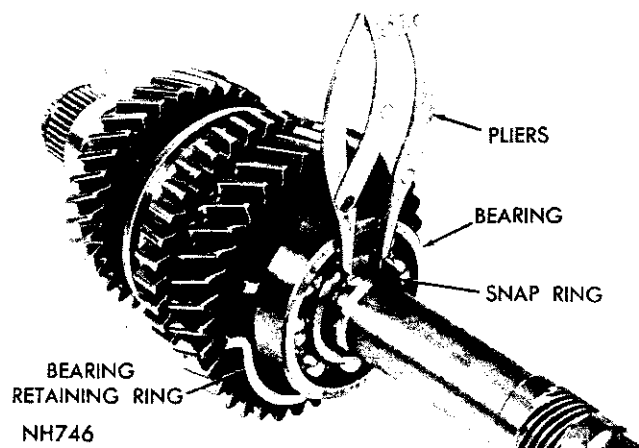
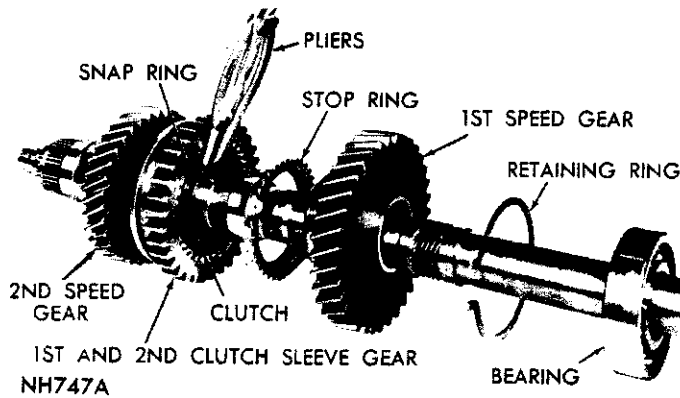
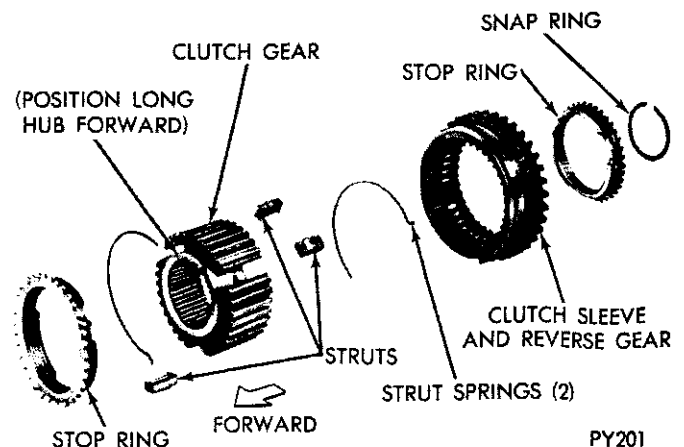

Fig. 26—Removing or Installing Mainshaft Bearing Snap Ring—Rear
Fig. 27—Removing or Installing Clutch Gear Snap Ring
Fig. 40—1st-2nd Synchronizer—Disassembled
(9) Remove snap ring that retains mainshaft bearing on the shaft (Fig. 26). Remove bearing from mainshaft by inserting steel plates on front side of 1st speed gear, then press or drive rear bearing off mainshaft. (Be careful not to damage gear teeth.)
(10) Remove bearing, bearing retainer ring, 1st speed gear, and first speed stop ring from the shaft.
(11) Remove snap ring that retains 1st and 2nd clutch sleeve gear and clutch to mainshaft (Fig. 27).
(1) Sub assemble the synchronizer parts in the order shown in (Figs. 40 and 41) as follows: Place a stop ring flat on the bench followed by the clutch gear and sleeve. Drop the struts in their slots and snap in a strut spring placing the tang inside one strut. Turn the assembly over on the stop ring and install second strut spring tang in a different strut.
(2) Slide second speed gear over mainshaft (synchronizer cone toward rear) and down against shoulder on shaft (Fig. 27).
(3) Slide first and second synchronizer assembly (including stop ring with lugs indexed in hub slots, (Fig. 40) over mainshaft, down against second gear cone and secure with a new snap ring (Fig. 27). Slide next stop ring over shaft and index lugs into clutch hub slots.
(4) Slide first speed gear (synchronizer cone toward clutch sleeve gear just installed) over mainshaft into position against clutch sleeve gear.